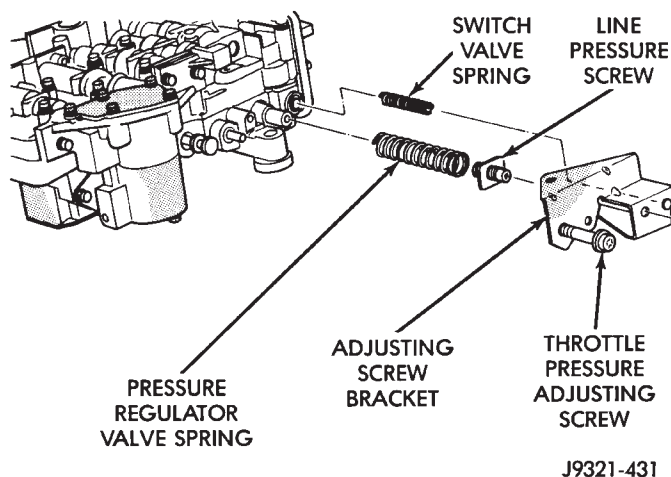

Fig. 107 Adjusting Screw Bracket And Spring Removal
(19) Remove adjusting screw bracket, line pressure adjusting screw, pressure regulator valve spring and switch valve spring (Fig. 107). **Do not remove throttle pressure adjusting screw from bracket and do not disturb setting of either adjusting screw during removal.**